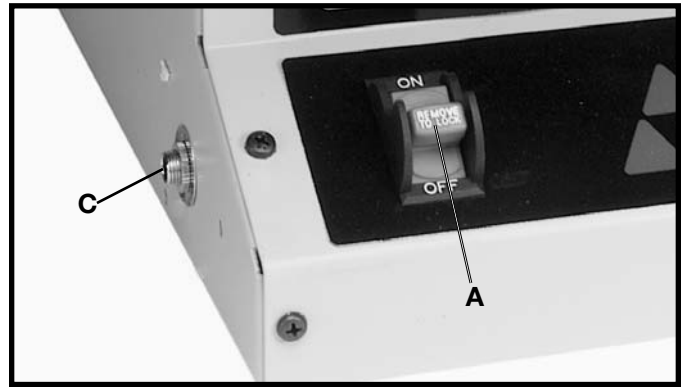

Fig. 16
The Router/Shaper is equipped with overload protection. If the motor shuts off, or fails to start due to overloading (cutting stock too fast; using dull bits and cutters; using the machine beyond its capacity or at low voltage, etc.), **TURN THE SWITCH (A) FIG. 16, TO THE "OFF" POSITION.** Let the motor cool three to five minutes and push the overload reset button (C) which will reset the overload device. The machine can then be turned on again in the usual manner.